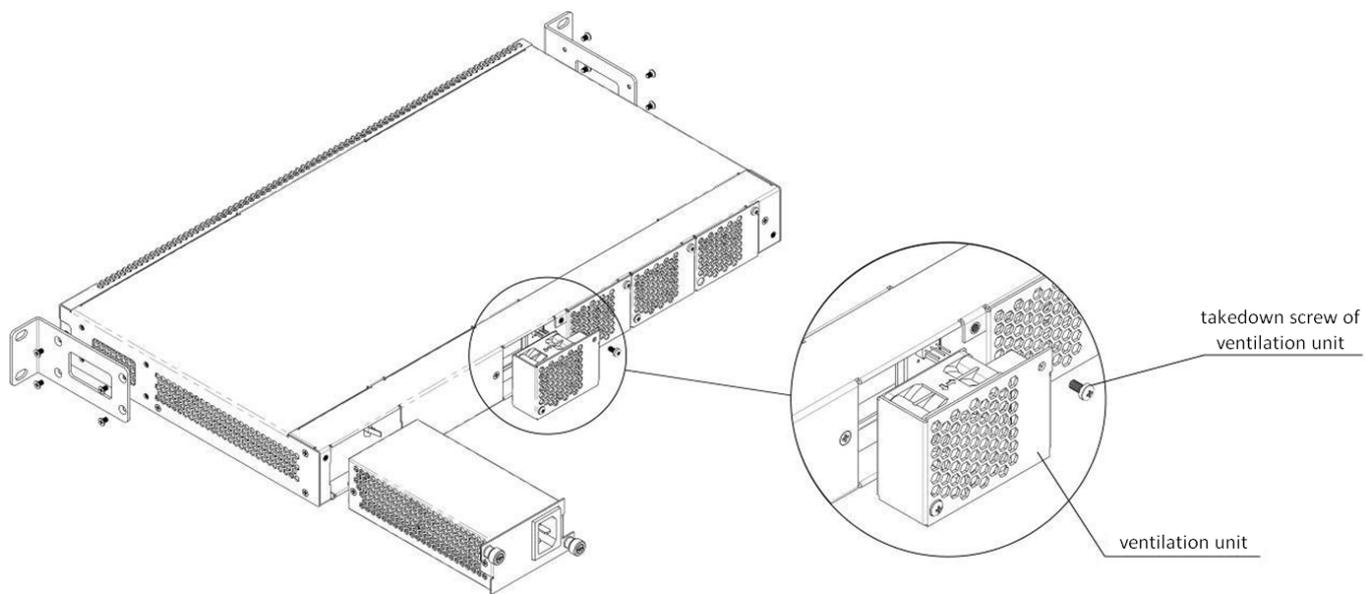

Figure 52 – Ventilation unit. Installation to the case
- **Step 1.** Use a screwdriver to remove the right screw fixing the ventilation unit to the rear panel (see Figure 52).
- **Step 4.** Screw the ventilation unit to the rear panel (see Figure 52).